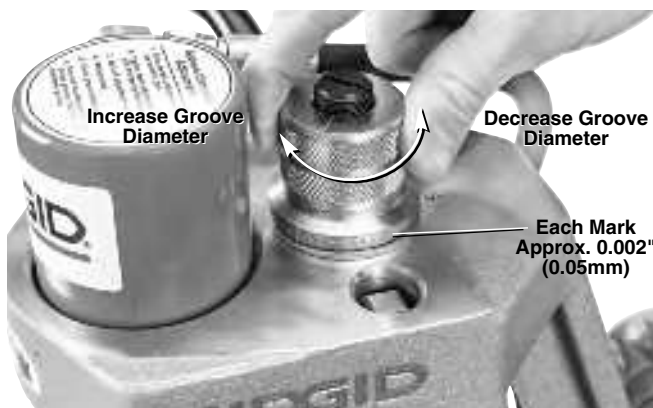

Figure 16 – Depth Adjustment Nut Setting
4. Back the depth adjustment nut off one turn (*Figure 16*).
6. Inspect/measure the test groove. If the groove diameter is not in specification, the depth adjustment nut must be repositioned to give the correct groove diameter. See *Figure 16*.